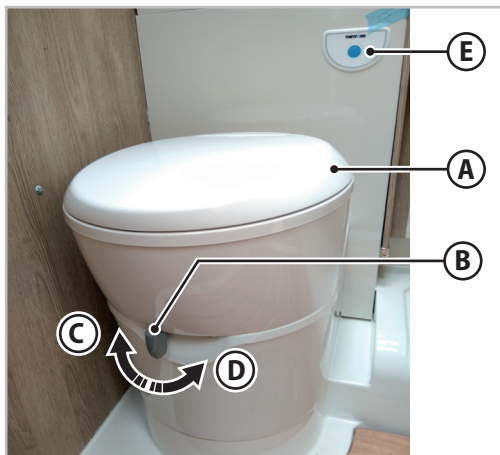

Fig.6.44 - Flushing the toilet
The upper part of the toilet (**A** - Fig.6.44) can be rotated right or left for optimal use of the space.
1. Move the lever (**B** - Fig.6.44) to position (**C** - Fig.6.44) to open the flush hatch.
2. Press and hold the flush button (**E** - Fig.6.44) for as long as needed.
3. Move the lever to position (D - Fig.6.44) to close the flush hatch.
1. Check that the toilet drain hatch is closed: the lever (B - Fig.6.44) must be in position (D - Fig.6.44).